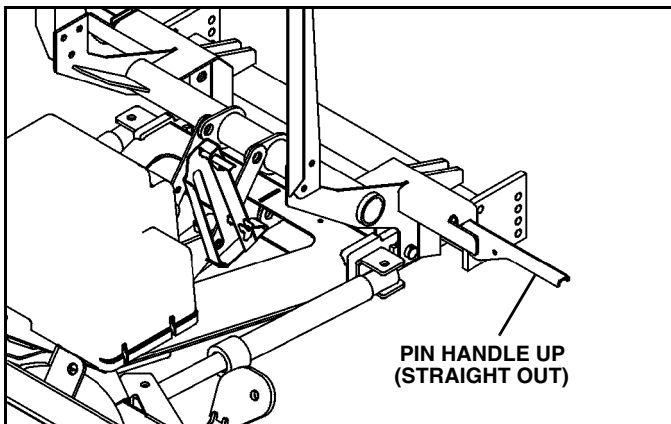

Figure 1-27
5. Rotate pin handles up (straight out) to unlock main pins. (See Figure 1-27).